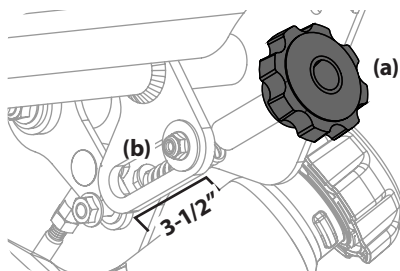

Figure 26
- Adjust the tracking knob (a) until the threaded rod (b) is flush with the end. See Figure 26. The length of the spring should be approximately 3-1/2" for proper adjustment.